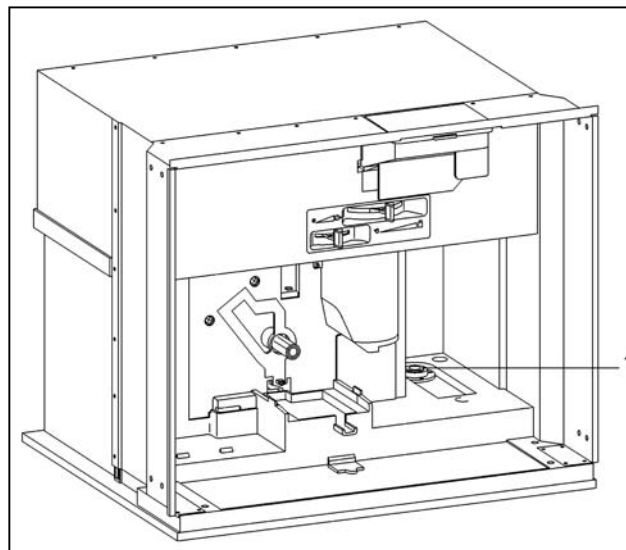

Figure 5-39: Removing the lip seal
4. Remove the Lip Seal (Figure 5-39).